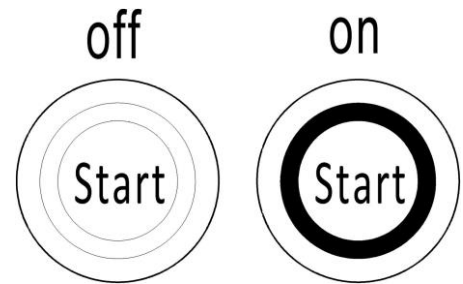

Fig.8: Button switch
Pull out the emergency button (Fig.1, 20), Press the button switch, and a green light will appear on the switch (Fig.8), type the password on pin-code panel and press  $\checkmark$  button to start the truck. Truck can also be activated with RFID access card.
LLS26NNU: Always lower the forks fully. Press the button, green LED ring is off (Fig.8), and press the emergency switch (20).